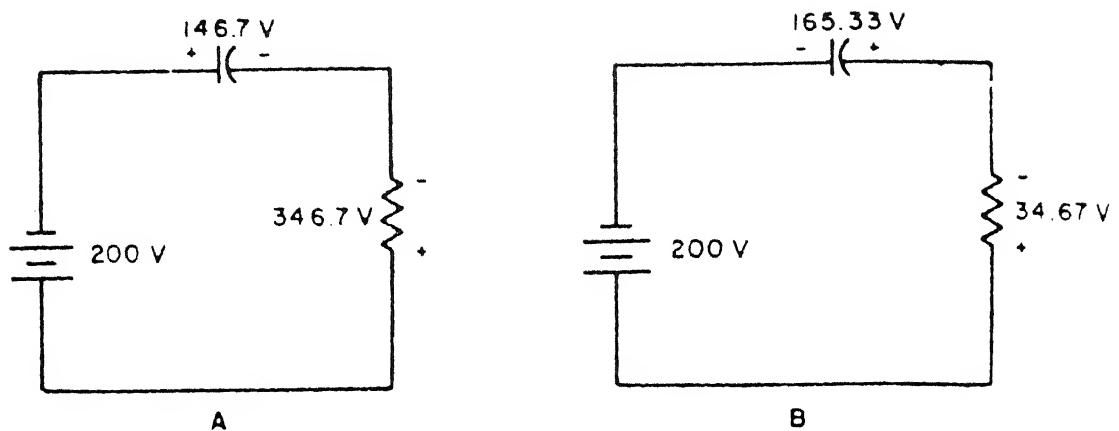

Figure 8
7. The switch is now thrown to position 4. Refer to figure 8.